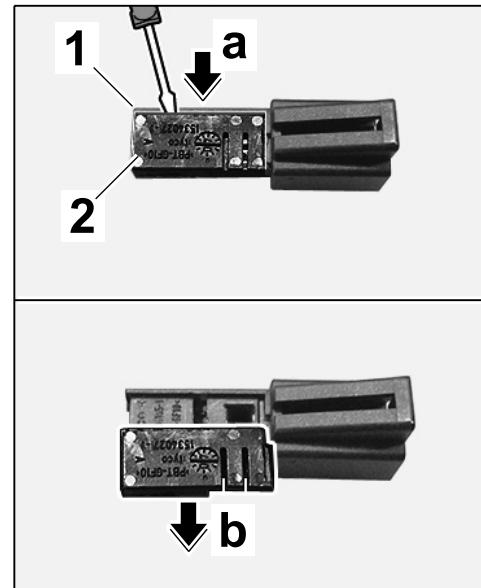

Figure 10
2.3.2 Insert a screwdriver in between the plug socket \Rightarrow Figure 10-1- and secondary lock \Rightarrow Figure 10-2- (\Rightarrow Figure 10-arrow a-) and release secondary lock \Rightarrow Figure 10-arrow b-.